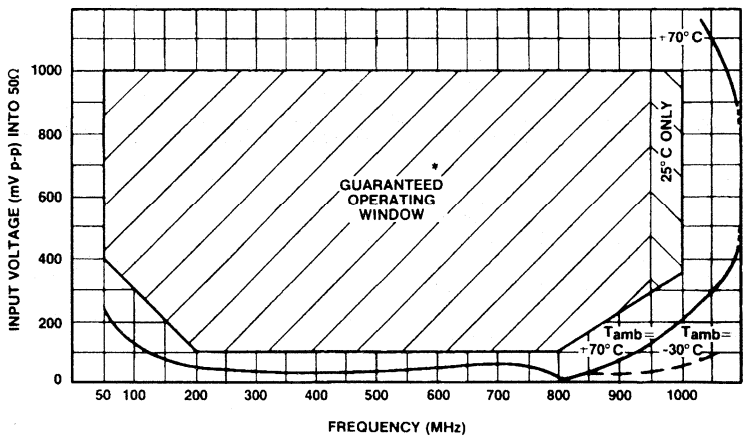

Figure 4 : Typical input characteristics
1. See Fig.4 for guaranteed operating window.